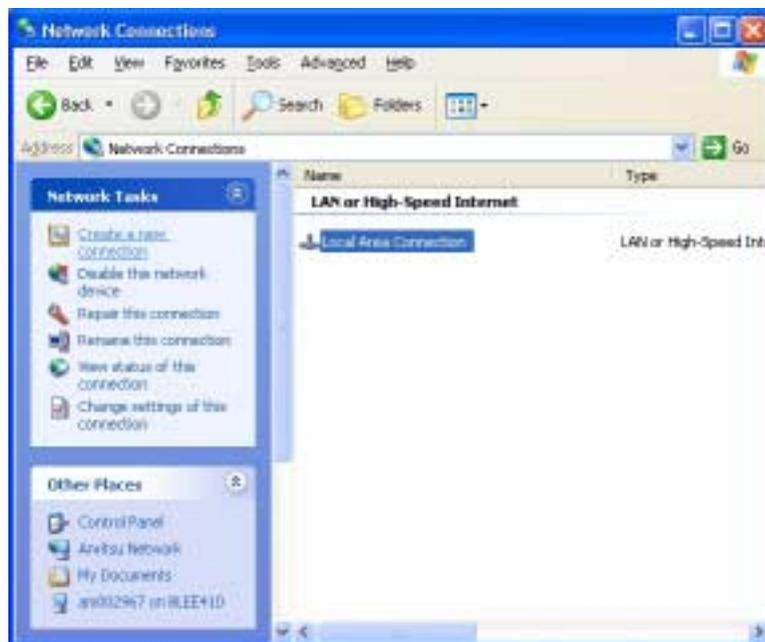

Figure 2-21. Network Connections
Step 11. If a connection needs to be manually set up or modified, you can right click on the connection name in the Network Connections window (Figure 2-21) and select Properties from the pop-up dialog box.